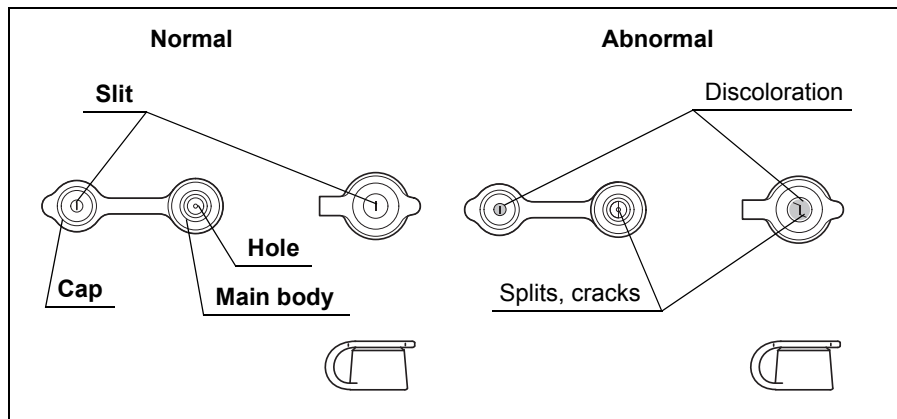

Figure 3.8
1. Confirm that the slit and hole on the biopsy valve have no splits, cracks, deformations, discoloration, or other damage (see Figure 3.8).